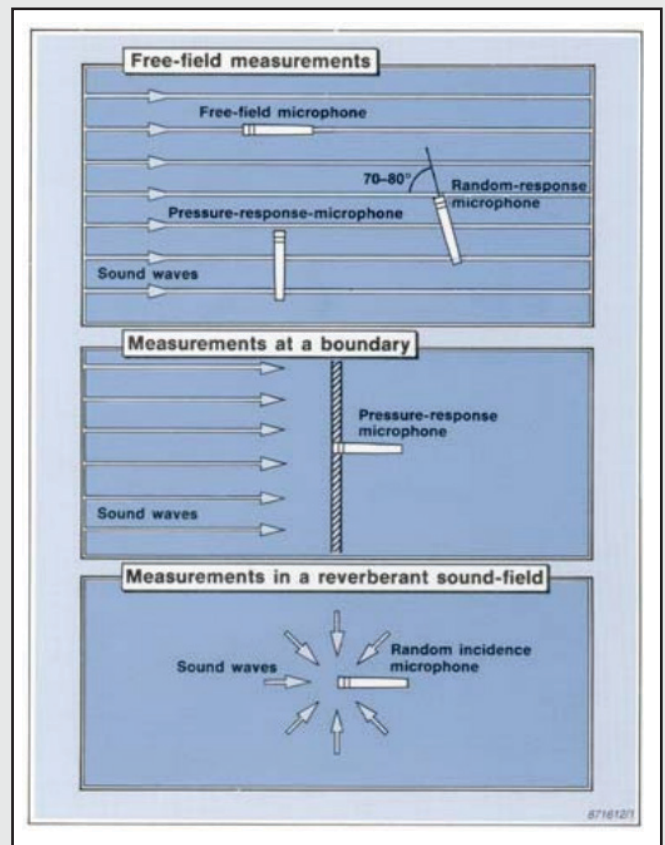

Figure 1: Measurement microphones can be calibrated for free-field, pressure, or random-incidence response. (Image courtesy of Brüel & Kjær)
- A free-field microphone should be used if the sound is coming only from one direction, as it compensates for pressure buildup at the diaphragm occurring at high frequencies under those conditions. A random-incidence microphone has a flat frequency response for sound in a diffuse field—arriving from all directions. When sound in a free field is being measured, a free-field microphone should be pointed at the sound source. If a pressure microphone is used in a free field, it should be pointed at right angles to the direction of the sound, and the high-frequency limit will then be lower than specified for pressure use. If a random-incidence microphone is used in a free field, it should be oriented at 70° to 80° from the direction of sound propagation (see **Figure 1**.)